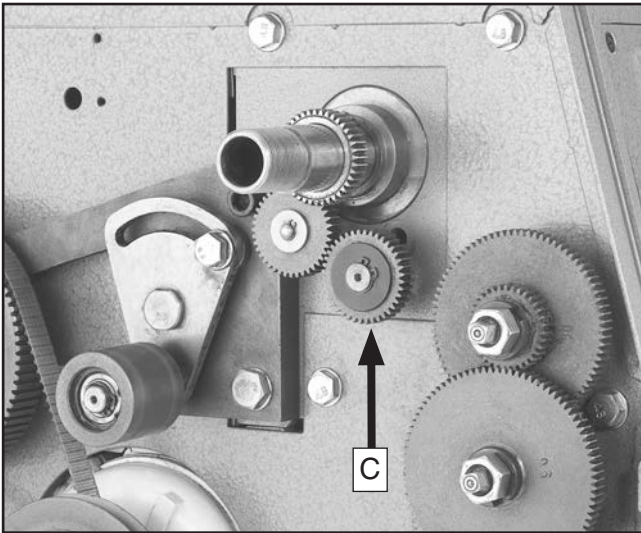

Figure 46. Fixed-shaft gear mounted in position "C."
4. When the machine is shipped, a fixed-shaft gear is in position "B." Remove that fixed-shaft gear from mounting location "B" and thread it into mounting location "C" as shown in **Figure 46**.